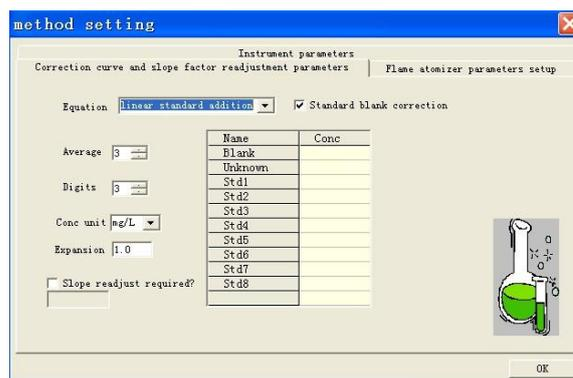

Figure 5-21
5. Press "Settings" to enter the "Correction curve and slope factor readjustment parameters" screen, as shown in Figure 5-21.